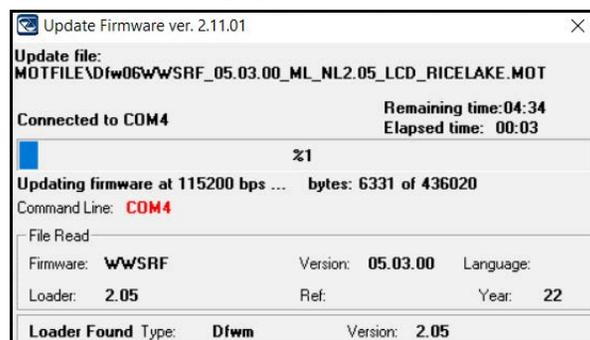

Figure 2. Firmware Update Status Window
18. Reinstall wheel weigh pad's cover and protection plate with previously removed hardware (Figure 2 on page 1).